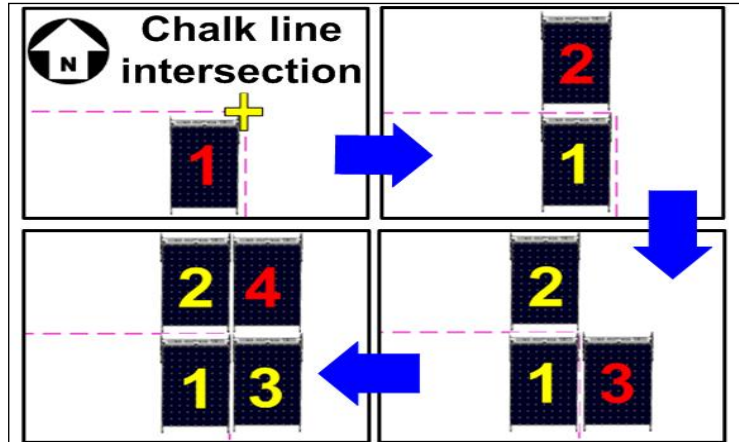

Fig. 5
- To become familiar with how the feet engage depending on the junction type, position the first four modules as follows (Fig. 5):
You can also start at a southern corner of the array and build northward and eastward; or northward and westward; actual build patterns can vary (Fig. 5).